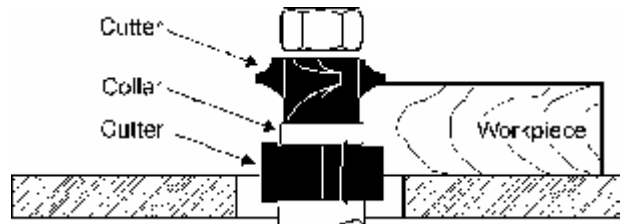

Figure 41
- Using the collar between the two cutters has the advantages and disadvantages of the first two procedures, and is frequently used where both edges of the work are to be molded, Figure 41.